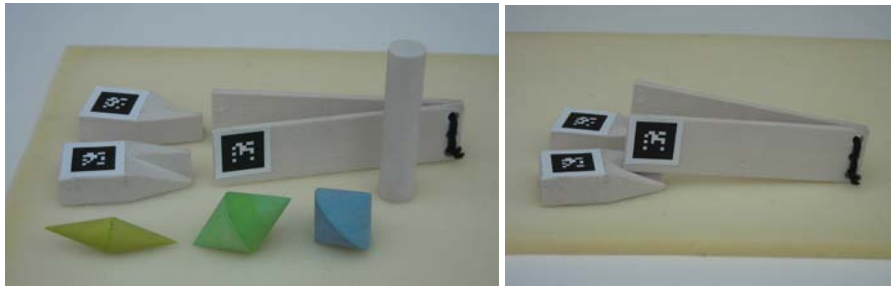

Figure 13
The SCeTGo miniature consists of a set of rails whose slope and angle of divergence can be varied, together with three double cones and a cylinder (figure 13).
1. Put the objects on the foam mat, or on another suitable high-friction surface, and set them up as shown in figures 13 and 16, with the AR marker on the left hand side of the rails. The edges of the rails should butt up evenly against the supports.